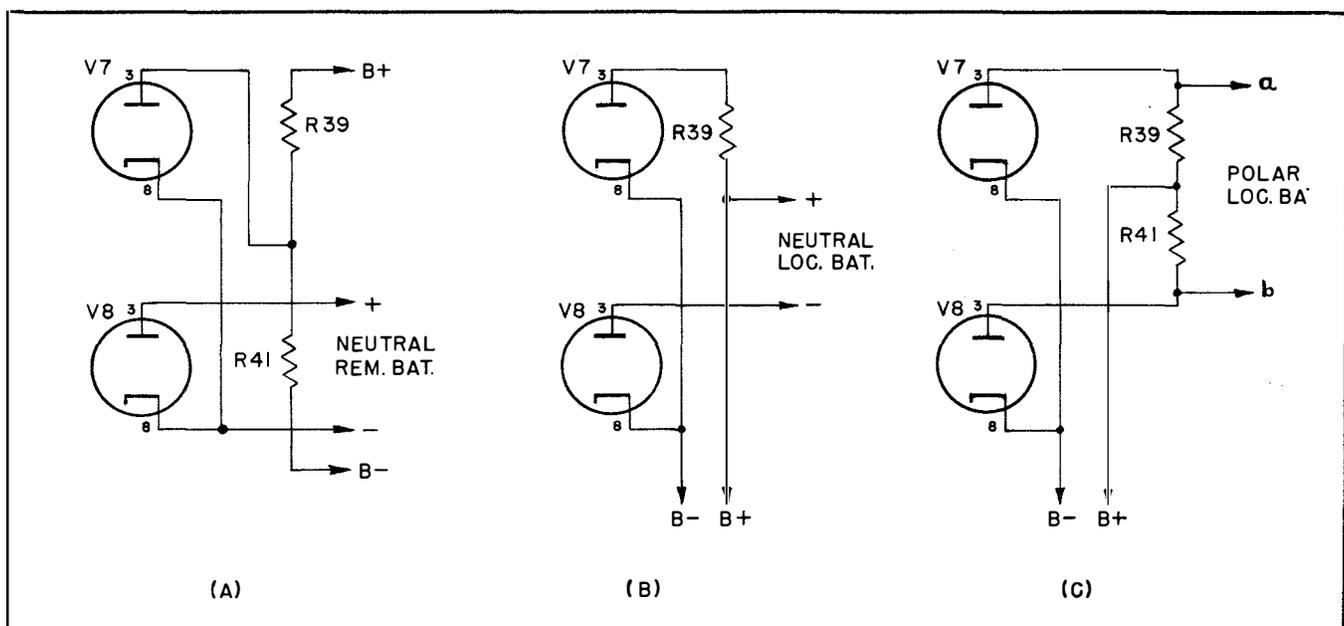

Figure 2-7. Simplified Output Circuits
and V8 so that keying may be inverted by throwing this switch. The functions of the OUTPUT SWITCH S2 are best described by observing the Simplified Output Circuits of Figure 2-7. Switch S2 is a three position rotary switch located at the back of the Receiver since it will normally be set at the time the Receiver is installed and need no adjustment until a different type of operation is desired. In the most clockwise position of S2, a neutral remote battery type of operation is secured. Under these conditions tube V8 alone is in the output circuit. See Figure 2-7 (A). The positive pole of the output line connects to the plate of V8 while the negative pole connects to the cathode. Resistors R39 and R41 present a load to the internal B+ supply which is not connected to the output line. Tube V7 is keyed but its output has no significance. Tube V8 acts simply as a keying device in the neutral remote battery line. Figure 2-7(B) illustrates the circuit for the NEUTRAL L. B. position of switch S2. In this case the output line is connected in series with the internal B+ supply and the plate of V8. Tube V8 acts again as a keying device which is open
when the grid of the tube is cut off, and as a resistor in the line which is adjusted to provide the correct line current when the tube is drawing current. Tube V7 is also keyed and its keyed output appears across resistor R39 but serves no useful purpose as far as the output line is concerned. Figure 2-7(C) illustrates the output connections for POLAR L. B. operation. In this case both tubes contribute to the output. When tube V7 is drawing current, output line (a) is negative due to the large voltage drop across resistor R39 while output line (b) is positive (V8 drawing no current). When V8 draws current and V7 is cut off, the potential at (a) and (b) is reversed. Thus, polar output is secured. Tubes V7 and V8 are required to draw 120 MA during their "on" period to supply a 30 MA 120 volt polar output. One section of switch S2 (S2D) connects resistor R51 across the regulator tubes in the power supply during POLAR operation when the maximum current requirements exist. The type 6Y6-G tube used for V7 and V8 will supply this heavy plate current with about 8 watts plate dissipation which is well under its rating of 12 so that it makes a suitable keying tube. Since the entire Receiver is "floating" with respect to ground, any output terminal may be grounded under any conditions of operation. A special type of chassis construction with a small internal chassis connected to B- and not to ground plus a special isolating transformer at the input of the Receiver (described in Section 2-A) provide freedom from output to input feedback effects when grounds are made to output circuits. Resistor R40 in the output circuit line is the meter shunt necessary for making a basic 500-0-500 microammeter read 100-0-100 milliamperes for which the meter is calibrated. A jack J2 is connected in the output